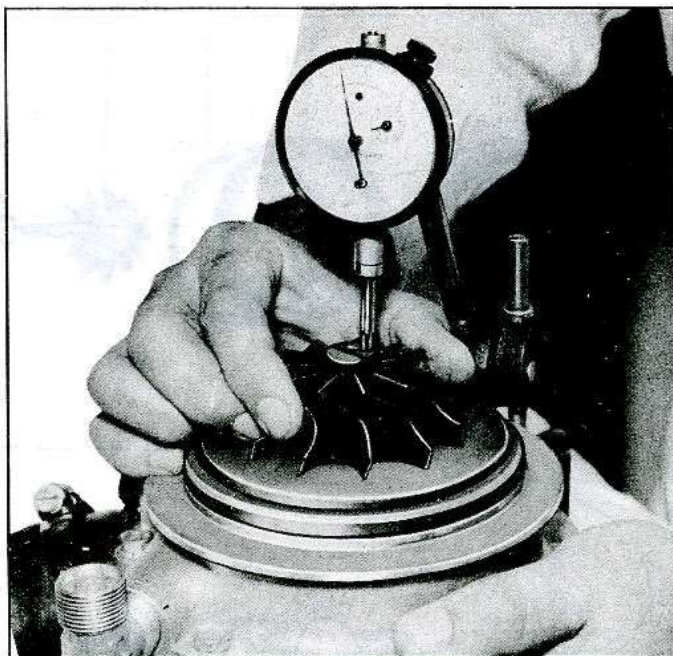

Fig. 47—Gauging Impeller-to-Housing Clearance
- b. Install gasket and compressor housing in place on bearing housing and install every other bolt (3). Torque the bolts to 80 in. lbs.
- d. Position a dial indicator as shown in Figure 47 with indicator point resting on turbine hub and set at zero. Lift straight up on the turbine wheel as far as it will go and note indicator reading. (Repeat impeller lift at least once to check your reading.)